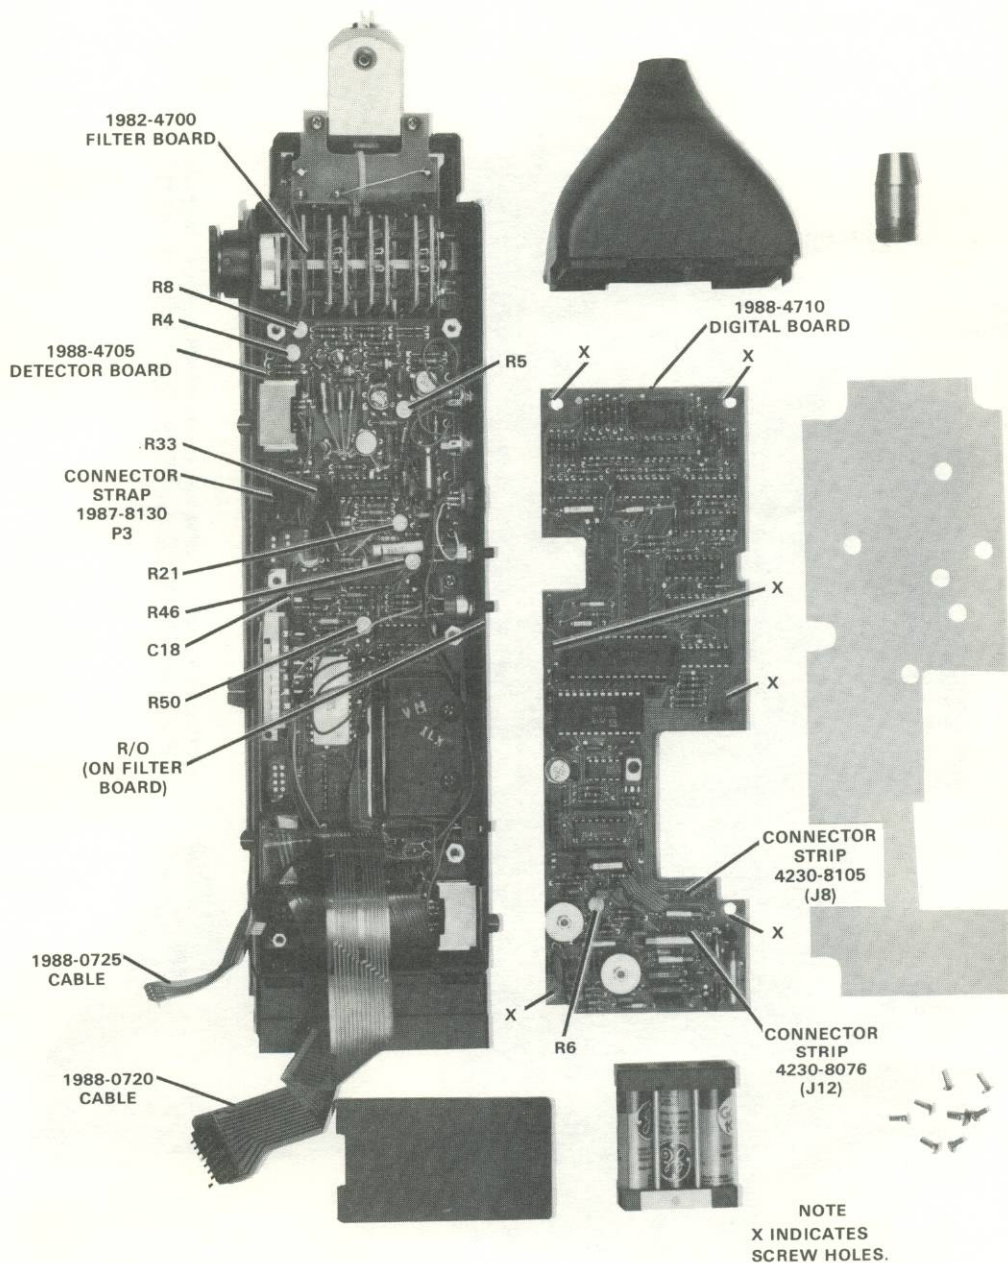

Figure 5-1a. Partial disassembly and parts location.
- b. Remove the 6 screws that hold the board (designated by "X" in Figure 5-1a).